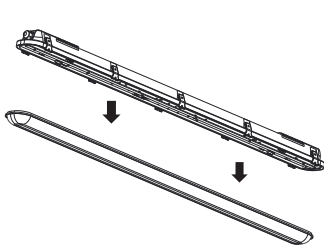

Figure 1
1. Open the lens latches and remove the lens. (Figure 1)